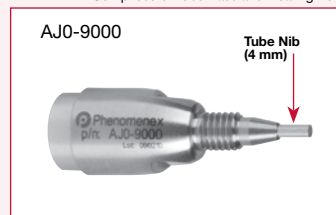

Figure 2. Guard Cartridge
- Select a guard cartridge. Match the correct cartridge phase to your column chemistry and dimension (see re-ordering information). Inspect the male end of the guard cartridge to ensure it is free of scratches, debris and particulates (Figure 2).
Match the correct phase of the guard cartridge to your column chemistry (see re-ordering information on back). Inspect the male end of the cartridge to ensure it is free of scratches, debris and particulates (Figure 2).